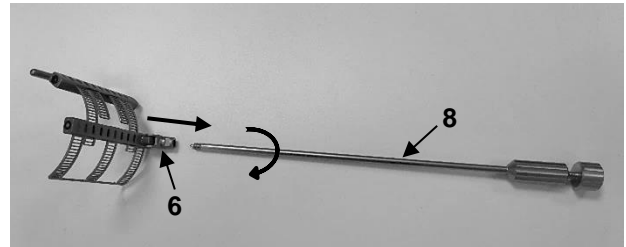

Fig. 9
To remove the blade guide MRN-3 (8), it must be unscrewed completely from the thread of the joint (6) in an anticlockwise direction (Fig. 9).